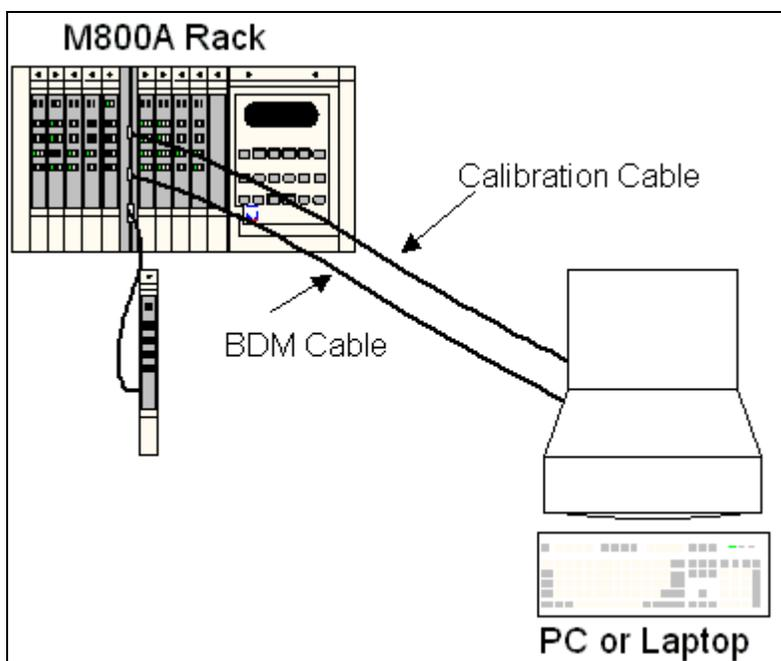

Figure 3. System configuration for both firmware upgrades and calibration.
4. Disconnect the cables from the CMMA864, press the reset button on the CMMA864, and re-install the front panel hardware. Figure 3 below illustrates a typical hardware setup between a PC and a CMMA864.
In figure 3 above, the BDM cable is connected to the PC's parallel port, and the Calibration cable is connected to serial port #2 of the PC.